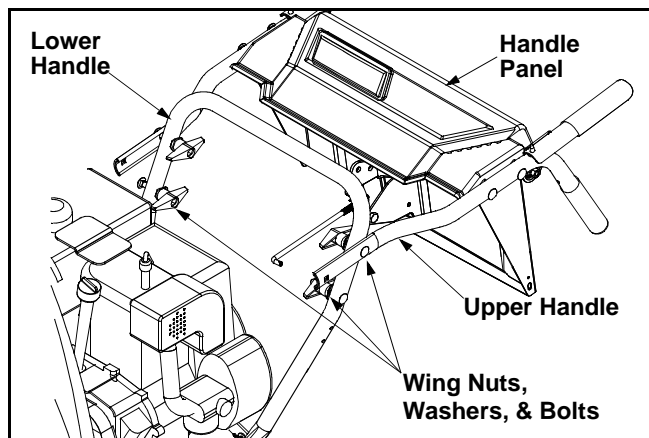

Figure 2
- Remove the **lower** two plastic wing nuts, cupped washers and carriage bolts from each side of the lower handle. See Figure 2.